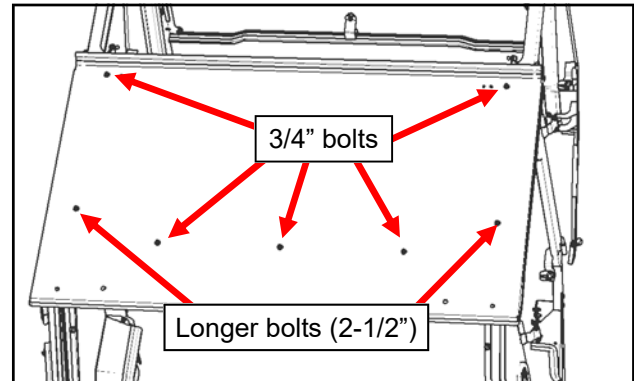

Fig. 11.2 (Front Canopy)
11.2 Per figure 11.2, place the front canopy on top of the cab and align to the holes in the headers and windshield support. Insert the longer 1/4-20 bolts with plastic washers through the outer, front holes in the canopy, through the holes in the ROPS and through the lower flange of the headers and secure with nuts. Insert shorter 1/4-20 bolts with plastic washers through the remaining holes through the canopy as shown and secure with nuts.